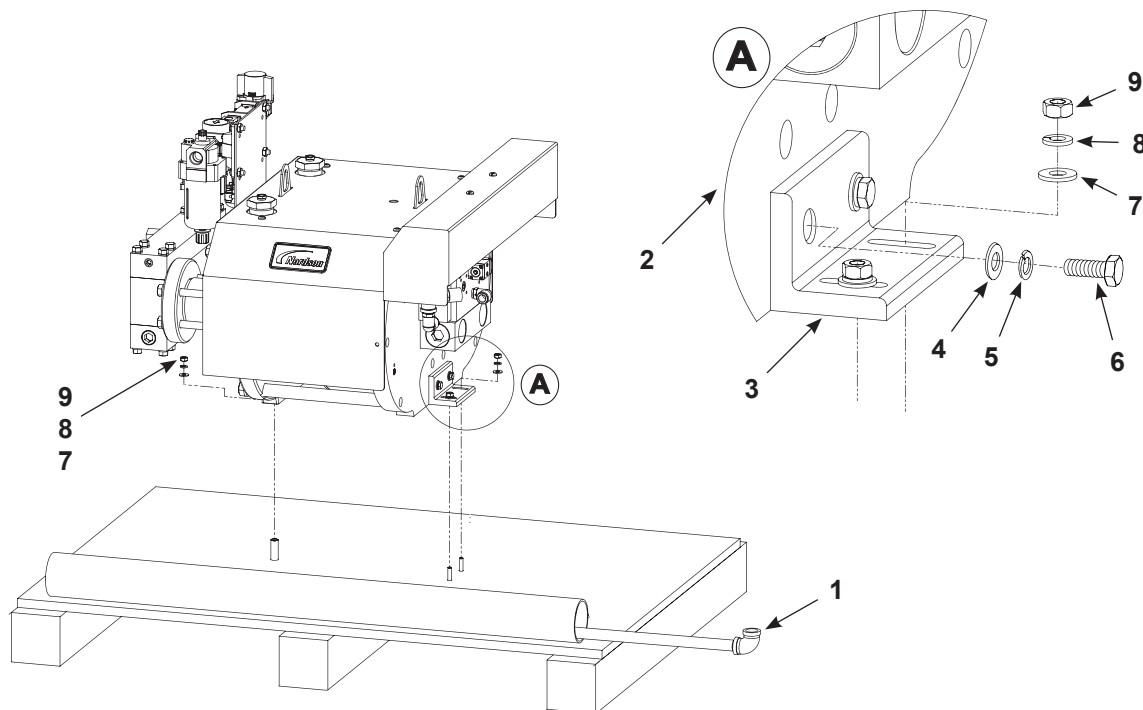

Figure 3-1 DR-1676 Pump Components
1. See Figure 3-1. Remove the siphon rod (1) from the tube on the pallet.
2. Remove the nuts (9), lock washers (8), and washers (7) securing the pump (2) to the pallet.
3. Remove the shipping bracket screws (6), lock washers (5), and washers (4) securing the shipping bracket (3) to the pump (2).